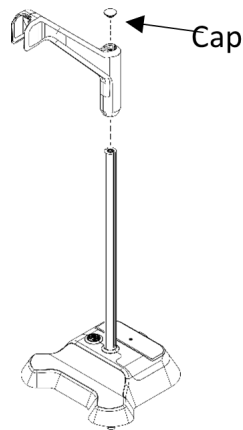

Figure 17. Assembly of the Aquanex Touch Smart Dispenser
- Press the button on the dispenser arm and slide it down the stand post (See **Figure 17**).